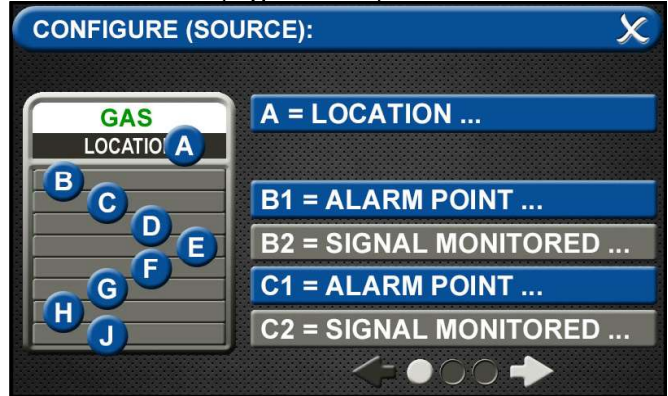

Figure 181: Configure Source Screen
- To add another location, touch the LOCATION tab and choose an existing location or type in a new source location (Figure 181).
- To set an alarm point, touch the ALARM POINT tab (Figure 181).